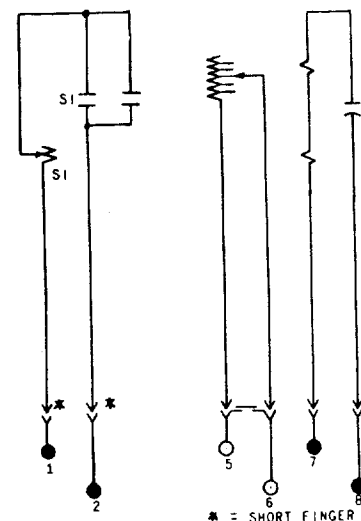
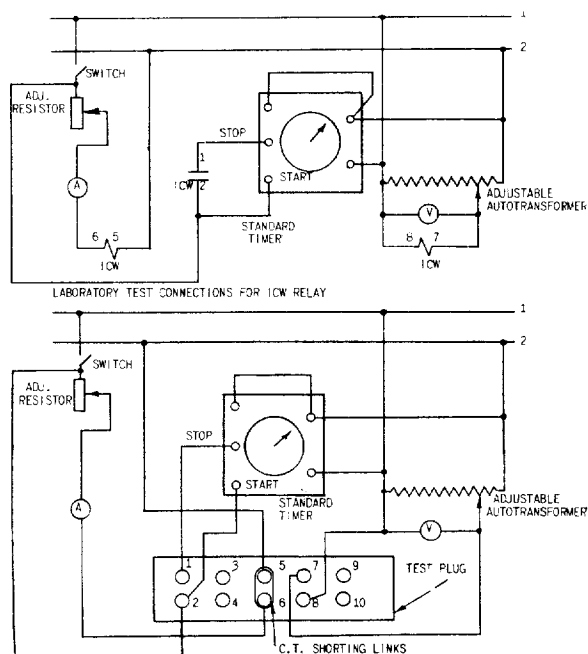

Fig. 2 Internal Connections (Front View) of ICW51B Relay (362A631-2)
Fig. 4 Field Test Connections (0165A7511-0)
Internal connections for the ICW51B are shown in Fig. 2.
Every circuit in the drawout case has an auxiliary brush as shown in Fig. 3 to provide adequate overlap when the connecting plug is withdrawn or inserted. Some circuits are equipped with shorting bars (see Fig. 2) and on these circuits it is especially important that the auxiliary brush makes contact as indicated in Fig. 3 with adequate pressure to prevent the opening of C.T. secondary circuits or important interlock circuits.
Check that the shorting bars are in the correct locations as indicated in Fig. 2 and that the auxiliary brushes are properly adjusted.
1. Pickup - Wattmetric unit pickup in terms of single phase watts can be set by inserting the tap screw in the desired position. If the pickup adjustment is being made on a relay already in service, be sure to remove the relay connection plug before changing the tap screw position. The tap screw must be securely tightened if its position has been changed. The actual pickup then should be checked using the test connections of Fig. 4, which shows test plug connections for testing the relay from the front of the panel.
2. Time Setting - The operating time at a given multiple of pickup watts is determined by the setting of the time dial. If the required operating time is known, the necessary time dial setting can be determined from the pickup time curves in Fig. 2 and the dial set at the required position. Note that before
the time dial setting can be changed, the two locking screws projecting through the shelf on the die-cast frame must be loosened. When thus adjusted the relay will have an operating time accuracy of ± 8 percent of the value shown in Fig. 2. It is suggested that after the time dial has been set in accordance with the pickup time curves, the actual operating time should be checked using the test connections in Fig. 4.
Connect the relay as shown in Fig. 4. Preheat the relay by applying rated voltage to the potential circuit for 15 minutes. If the relay was continuously energized prior to this test, the preheat time can of course be omitted. With rated voltage applied to the potential polarizing circuit check the pickup current. This should be within ± 3 percent of the corresponding reading recorded during **INSTALLATION**.
Using the connections of Fig. 4 make a spot check of the pickup time. This check should be made at three points on the time characteristic, say at 3, 5 and 10 times pickup. The recorded times should be within ± 3 percent of the times recorded for the same pickup multiples during **INSTALLATION**.
1. Pickup Adjustment - If it is necessary to readjust pickup or if a pickup point is desired which falls between tap positions, the following procedure is recommended. Connect the relay as shown in Fig. 7 if the test is being made in the laboratory, or as in Fig. 4 if the relay is being tested in position on the panel. Determine the pickup current corresponding to the desired tap setting or intermediate pickup watts from the following equation:
2. Pickup Time - If pickup time is found to be outside the limits mentioned in ACCEPTANCE TESTS and PERIODIC CHECKS it can be restored by changing the position of the drag magnet on its supporting shelf. Using the test diagram of Fig. 4,